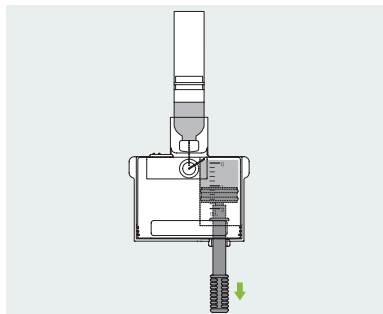

Figure 61
- 3 With the insulin vial or cartridge on top, slowly pull the pullrod and draw insulin into the reservoir as in Figure 61.